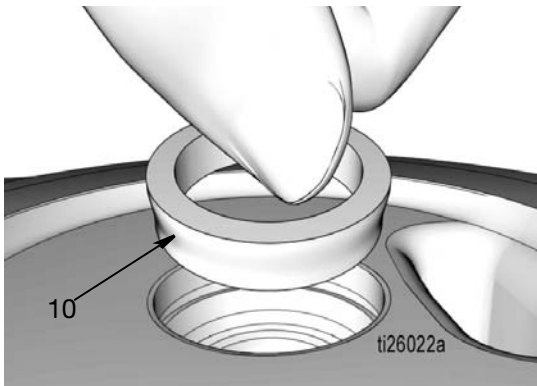

FIG. 37
- i. Install the tapered spacer (10), tapered side facing down as shown in FIG. 37.